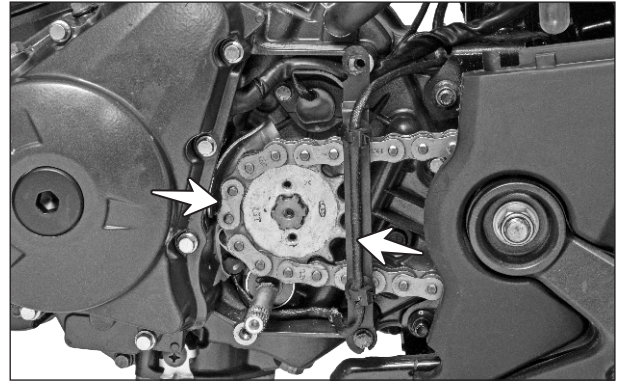

Fig. 3.104
- Pull out the sprocket engine along with drive chain assembly from shaft drive. (Fig. 3.104)